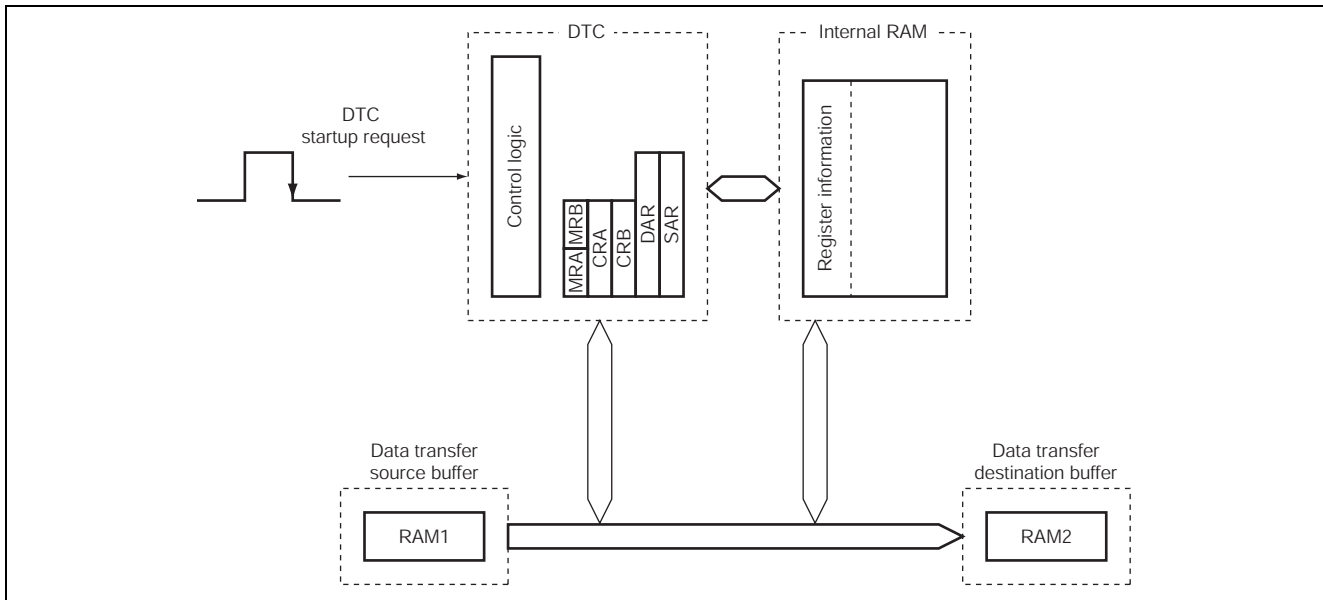

Figure 2 Block Diagram of Data Transfer Started up by Software
A. The block diagram of DTC to be used by this sample task is shown in figure 2.